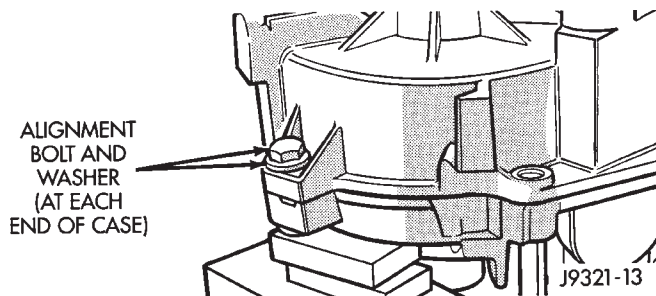

Fig. 32 Rear Case Alignment Bolt Locations
(12) Mount transfer case on wood blocks so rear case is facing upward.
(13) Remove bolts holding front case to rear case. The case alignment bolt require flat washers (Fig. 32).